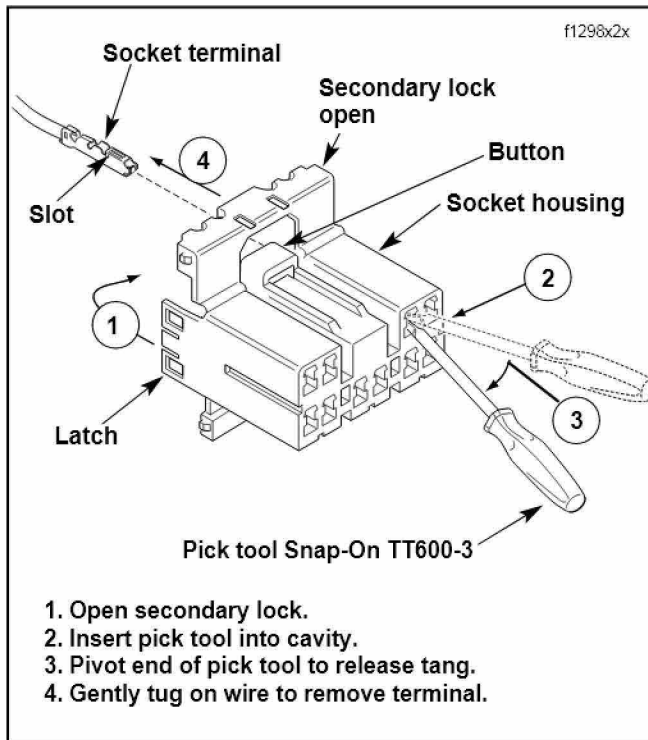

Figure 2. Amp Multilock Socket Connector Wire Removal
See Figure 2. Depress the locking button and separate the connector. Open the secondary lock and insert the Amp terminal end of signal (yellow) lead wire (item 10 in Service Parts Illustration) into cavity #7 of the connector. Fold the secondary lock closed. Cut the orange/white wire coming out of connector cavity 1 and the BLACK wire coming out of cavity 12 a few inches from the connector. Strip 3/8 inch of insulation from each end of the wire.